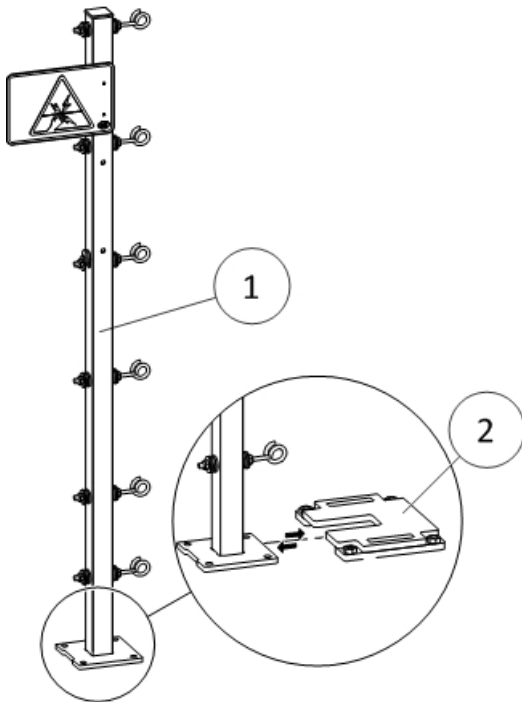

Figure 39. Removable pole
3. Unhook the wire from the open eyes (1) on the (removable) poles.
6. Remove the removable poles (1) (see figure 39 on page 5-23) from the plate (2).
1. Install the removable poles (1) (see figure 39 on page 5-23) under the plates (2).